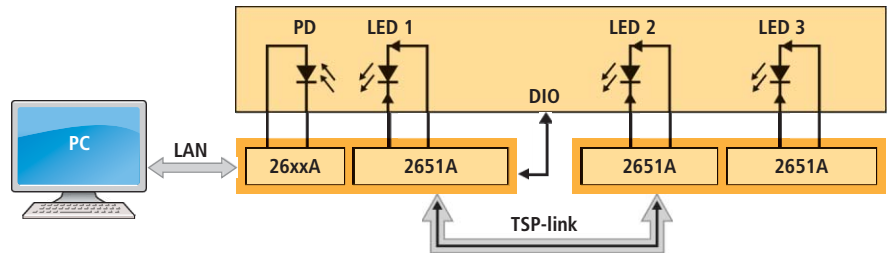

FIG. 4. Production setup for testing three HB-LEDs.
To achieve acceptable throughput, production test systems measure multiple parts simultaneously. Fig. 4 illustrates a device test system for three HB-LEDs that has one photodiode (PD) channel.